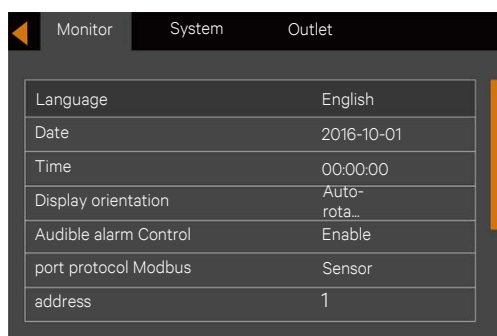

Figure 5-20 Monitor interface
1. Press the  key to move the cursor to the 'Monitor', see Figure 5-20.